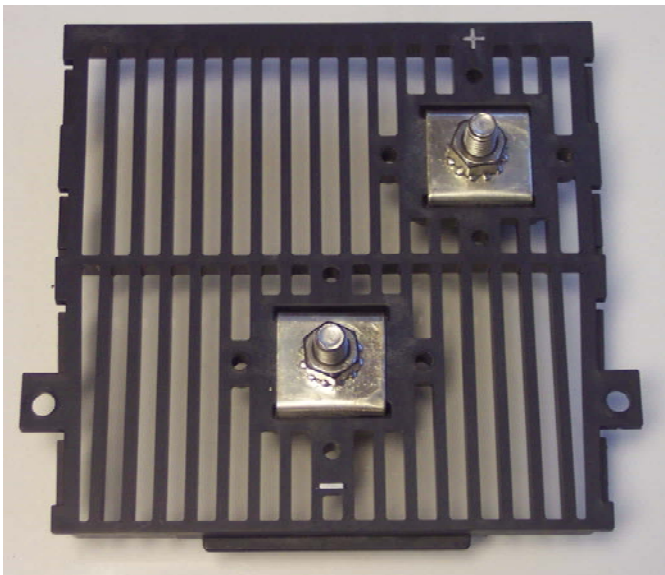

Figure 1, DC Terminal Plate
- DC terminal plate kit - includes an insulated plate with positive and negative DC terminals, and two 5/16" nuts; as shown in figure 1.